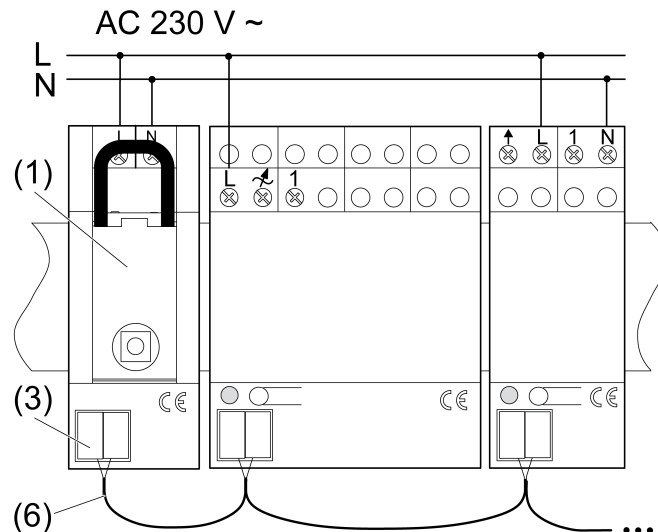

Figure 3
- Mount radio receiver (1) on DIN rail.
- Connect radio receiver according to connection diagram (figure 3).
- Connect radio receiver with the RMD radio actuators via the connection socket (3) using a bus cable (6).